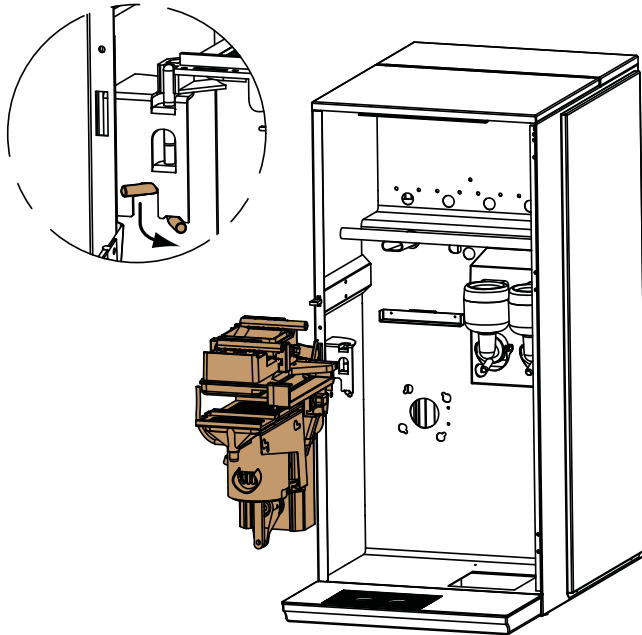

Figure 8-2 Removing the brewing group.
10. Pull and turn the lock pin downwards (see figure 8-2).